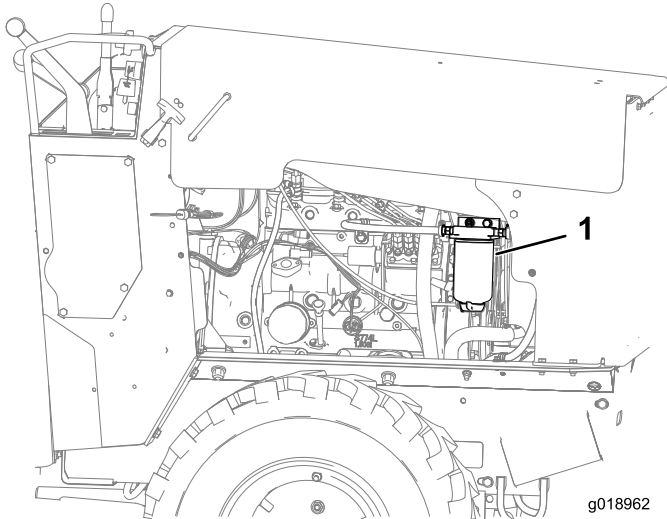

Figure 27
1. Locate the fuel filter on the right side of the engine (Figure 27) and place a clean container under it.